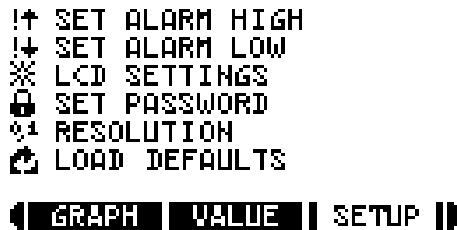
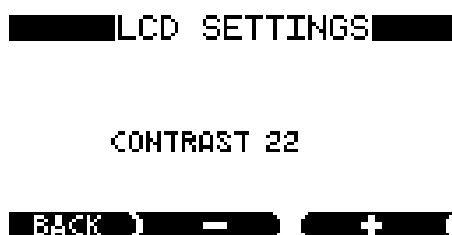

Figure 5: SETUP mode Screenshot
Figure 12: LCD settings screen
When in VALUE mode pressing the right most of the three navigation buttons will open the SETUP mode. In firmware versions before V1.17 the SETUP mode has six options as shown in Figure 5 below.
- 2ii) This brings up the menu as shown in Figure 5
- 3ii) This brings up the menu as shown in Figure 5.
- 4ii) This brings up the menu as shown in Figure 5
The LCD SETTINGS menu is used to adjust LCD display contrast. To open the LCD SETTINGS menu highlight the LCD SETTINGS option in the SETUP menu (see Figure 5) and select by pressing the ENTER button. Figure 12 below shows the display with the LCD contrast value selected for setting. The + and – buttons allow value of the display contrast to be adjusted for best visibility.
- 5ii) This brings up the menu as shown in Figure 5.
- 5iv) Use the right-hand button labelled with an arrow to scroll through the menu. Highlight LCD SETTINGS then press the central ENTER button. This brings up the LCD SETTINGS SCREEN, shown in Figure 12.
- 6ii) This brings up the menu as shown in Figure 5.
- 7iv) Use the right-hand button labelled with an arrow to scroll through the menu. Highlight RESOLUTION then press the central ENTER button. This brings up the resolution screen, shown in Figure 12 in its percentage mode. If the gas concentration is low it will show in parts per million, ppm.